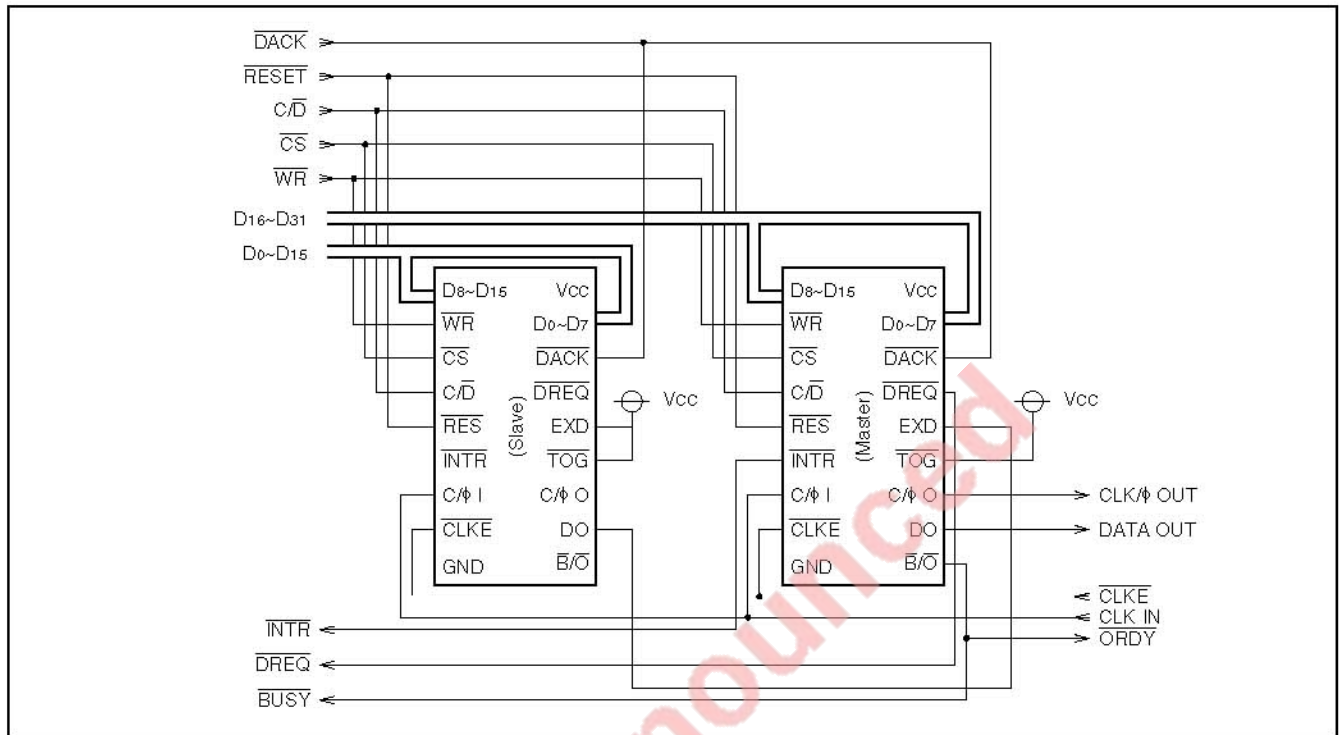

Fig. 14 Wiring diagram of 32-bit bus configuration
- (i) Thirty-two-bit bus operation is feasible when the circuit is connected as shown in Fig. 14.